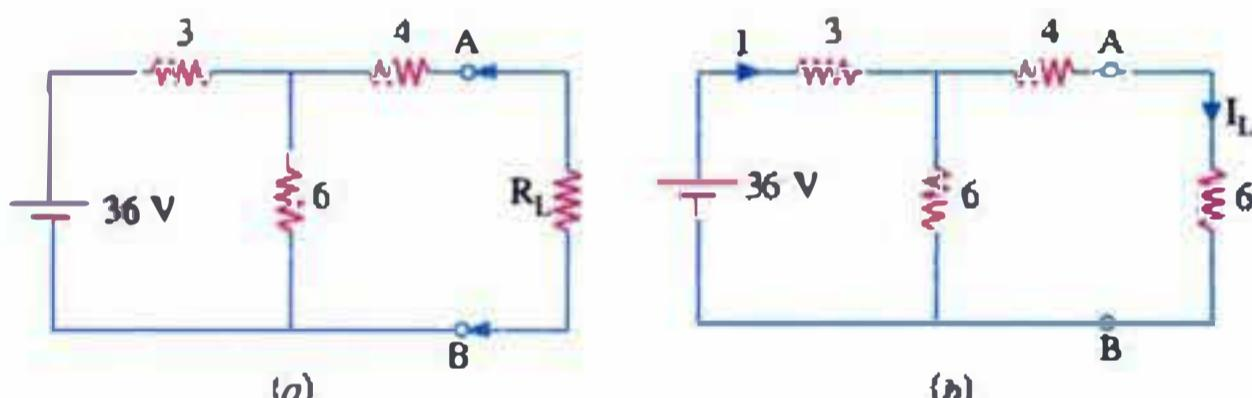

Fig. 4.23
**Example 4.7.** In the circuit of Fig. 4.23, find the value of load resistance  $R_L$  to be connected across terminals A and B which would abstract maximum power from the circuit. Also find the value of this maximum power.
In Fig. 4.23 (b),